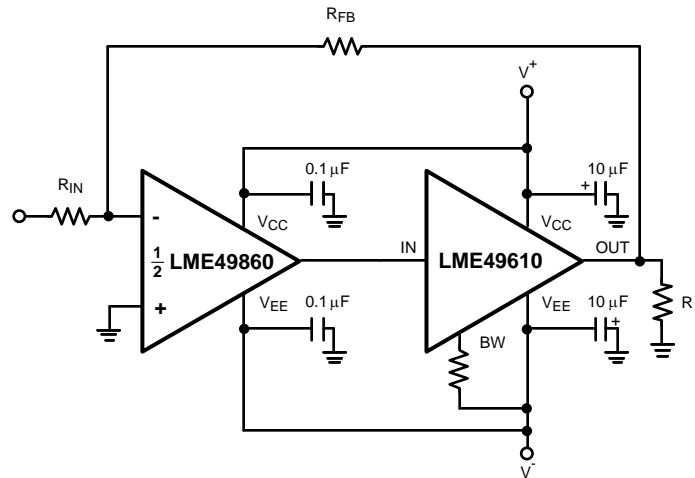

Figure 4. High Performance, High Fidelity LME49610 Audio Buffer Application
- (1) “*Absolute Maximum Ratings*” indicate limits beyond which damage to the device may occur, including inoperability and degradation of device reliability and/or performance. Functional operation of the device and/or non-degradation at the *Absolute Maximum Ratings* or other conditions beyond those indicated in the *Recommended Operating Conditions* is not implied. The *Recommended Operating Conditions* indicate conditions at which the device is functional and the device should not be operated beyond such conditions. All voltages are measured with respect to the ground pin, unless otherwise specified
- (2) The *Electrical Characteristics* tables list guaranteed specifications under the listed *Recommended Operating Conditions* except as otherwise modified or specified by the *Electrical Characteristics Conditions* and/or Notes. Typical specifications are estimations only and are not guaranteed.
- (3) Human body model, applicable std. JESD22-A114C.
- (4) Machine model, applicable std. JESD22-A115-A.
- (5) The maximum power dissipation must be derated at elevated temperatures and is dictated by TJMAX, θJA, and the ambient temperature, TA. The maximum allowable power dissipation is PDMAX = (TJMAX – TA) / θJA or the number given in *Absolute Maximum Ratings*, whichever is lower. For the LME49610, typical application shown in Figure 4 with |VEE| = VCC = 15V, RL = 32Ω, the total power dissipation is 1.9W. θJA = 20°C/W for the TO-263 package mounted to 16in2 (103.2 cm2) 1oz. copper surface heat sink area.